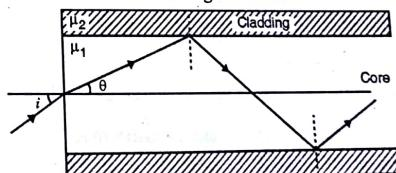

Fig. 5.5.1
- As shown in Fig. 5.5.1, the simplest type of an optical fibre consists of a thin cylindrical structure of transparent glossy material of uniform refractive index μ_1 , surrounded by a cladding of another material of uniform but slightly lower refractive index μ_2 .